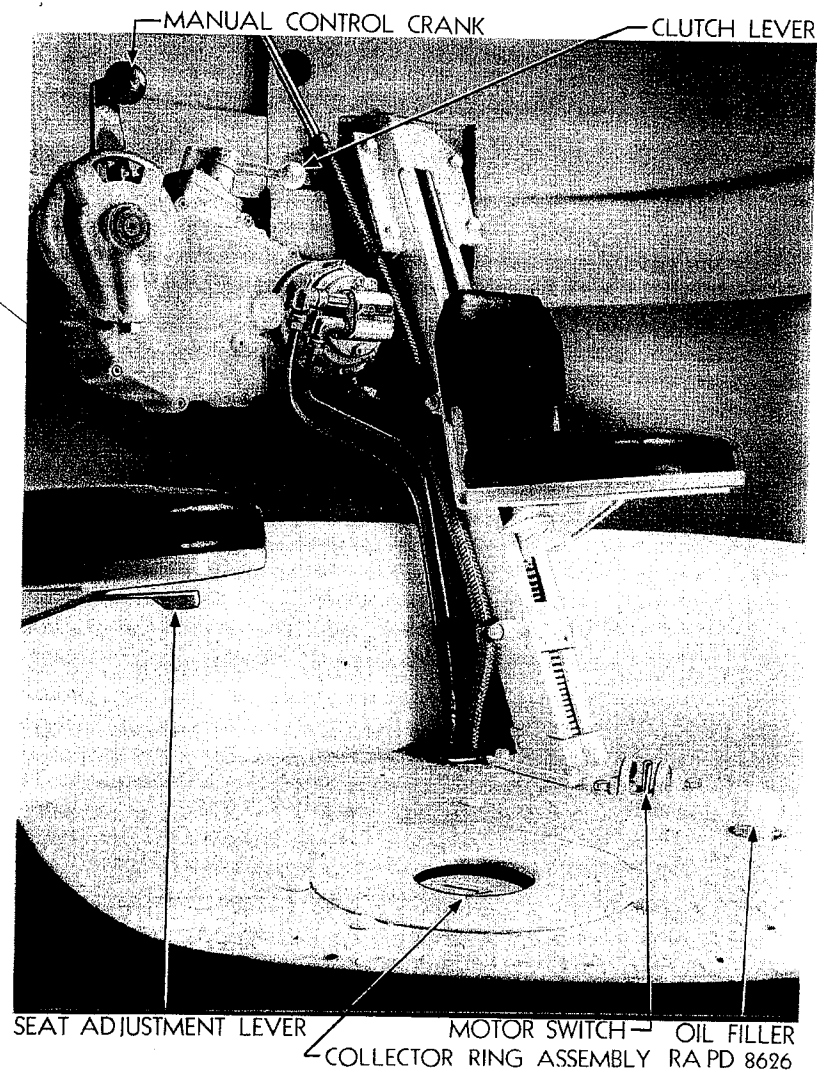
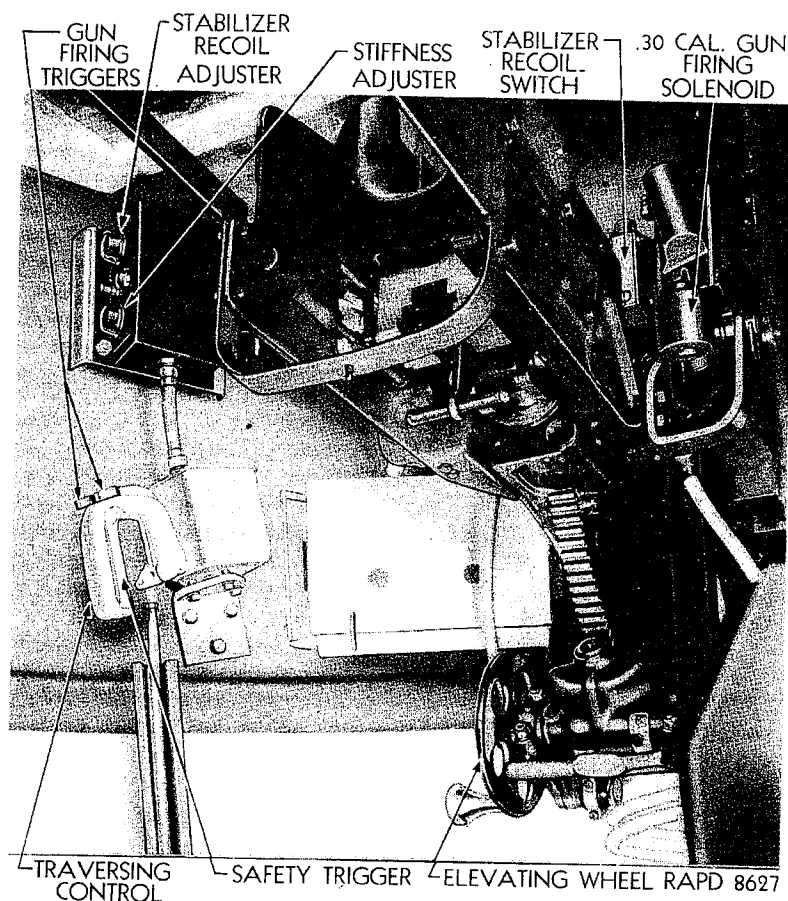
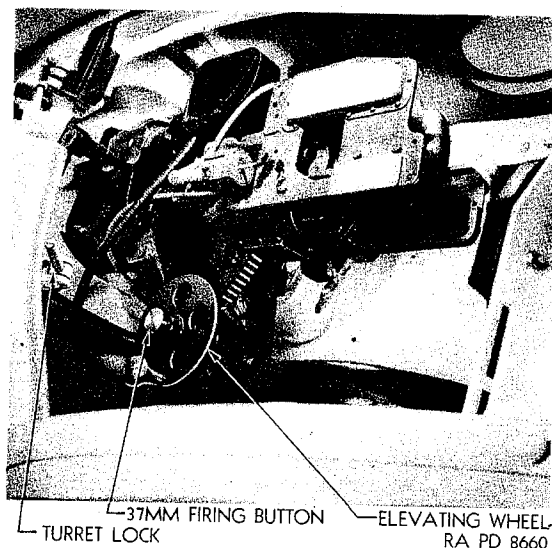

Figure 9—Turret Basket
Figure 10—Turret Interior
Figure 11—Turret Gun Mount, Left Side
(1) Traverse of 360° is secured by turning the entire turret either by the hydraulic mechanism or by hand. Selection of the method of rotation is made by means of a manually operated clutch lever at the top of the hydraulic motor housing between the two seats (Fig. 9). The turret can be locked in any position by means of the cam-type turret lock (Fig. 11).
(a) To rotate the turret with the hydraulic traverse, first move the clutch lever away from the turret wall, and turn the motor switch under the gunner's seat (Fig. 9) to the "on" position. Turn the traverse control handle (Fig. 10) toward the center of the turret, or counter-clockwise, to rotate turret to the left. Turn handle toward turret wall, or clockwise, to rotate turret to the right. The amount the handle is turned determines the speed of turret rotation.
(b) The turret can be rotated by the manual control crank (Fig. 9) after moving the clutch lever toward the turret wall to engage the manual gears with the turret gears.
(2) Elevation or depression of the combined unit is secured with a hand wheel located on the left side of the gun mount, and is maintained while the vehicle is in motion by means of the Gyro-Stabilizer. Turning the elevating wheel (Fig. 10) counter-clockwise depresses the guns a maximum of 10°, while turning it clockwise elevates them to a maximum of 20°.
(3) The electric firing controls are combined with the control handle operating the hydraulic turret traversing system (Fig. 10). Two buttons at the top of the pistol grip handle control the actual firing. The pistol grip must be compressed to release the safety mechanism. The left-hand firing button controls the 37 mm gun, while the button to the right fires the cal. .30 machine gun. The 37 mm gun can be fired manually with button trigger in the hub of the elevating wheel (Fig. 11), while the cal. .30 machine gun can be fired manually with the trigger on the gun itself, located just above the firing solenoid.
(2) **Starting the Unit.** Set the stiffness control (Fig. 10) at zero, take the hand-elevating gears out of mesh, and turn the handwheel until the gyro-control unit is approximately in a vertical position. Start the oil pump motor by turning the switch to the "On" position. This is the same switch as is used for the hydraulic turret traverse (Fig. 9). In cold weather, the oil must be permitted to warm up to obtain full control from the gyro-stabilizer equipment. In sub-zero weather, allow 1½ minutes running time for each degree of temperature below 0°F. or a total running time of 30 minutes at 20°F. below zero.
(b) **Adjusting the Stiffness Adjuster.** The stiffness adjuster located in the control box (Fig. 10) provides a means for the gunner to control the operation and effectiveness of the gyro-stabilizer. After the oil has warmed up, the knob of the stiffness adjuster should be turned clockwise slowly. An indication of too stiff an adjustment is a vigorous vibration of the gun. An indication of insufficient stiffness adjustment is the gun "hunting" or slowly elevating and depressing from its aimed or set position. When the gun starts to vibrate or "hunt" as the stiffness control knob is turned, decrease or increase the adjustment by turning the knob in the opposite directions until the "hunting" or vibration is eliminated. To check the operation further, press on the breech of the gun suddenly and re-
(c) **Adjusting the Recoil Adjuster.** The recoil adjuster located in the control box (Fig. 10) provides a means for the gunner to control the recoil of the gun. The recoil adjustment must be made by trial and error while the gun is being fired. The recoil adjustment knob should be gradually turned to the right or clockwise until a point is reached where the gun will keep its angular setting during recoil. If faulty operation is being obtained from the gyro-stabilizer during recoil, check for looseness in the mounting of the recoil switch as described in Section XXV.